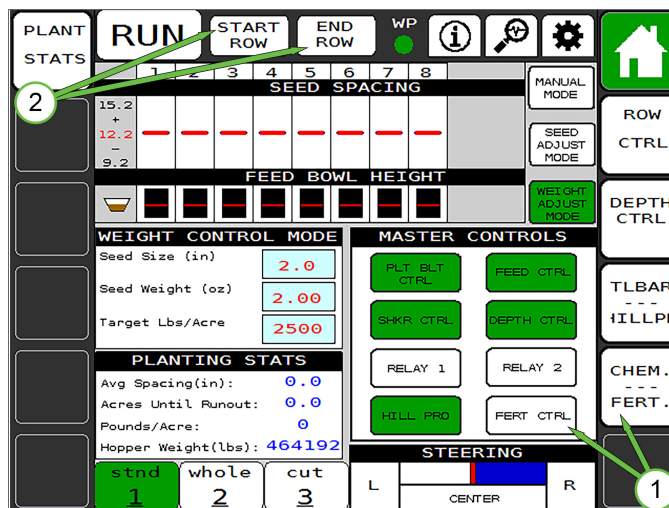

Figure 11
In Dry Fertilizer Configuration, the Home screen includes (1) *CHEM./FERT.* function and *FERT CTRL* master control keys, in addition to (2) *START ROW* and *END ROW* keys. (see Figure 11)